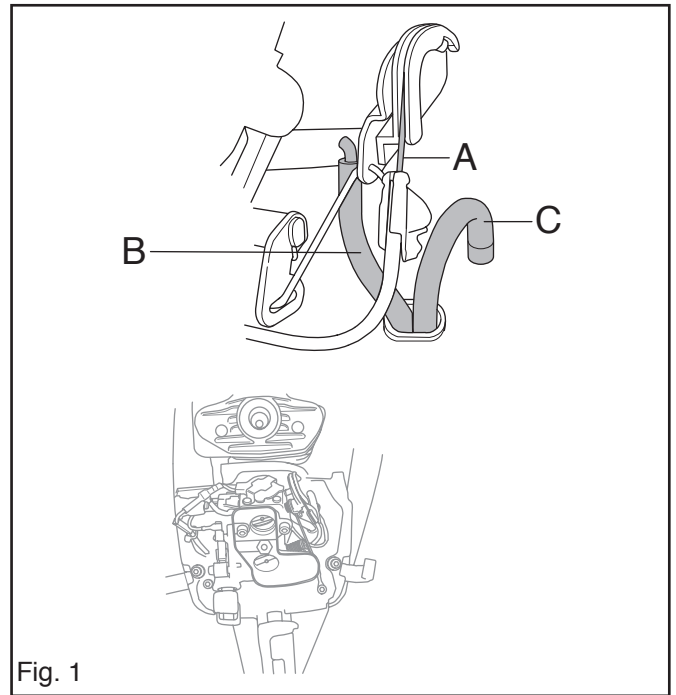
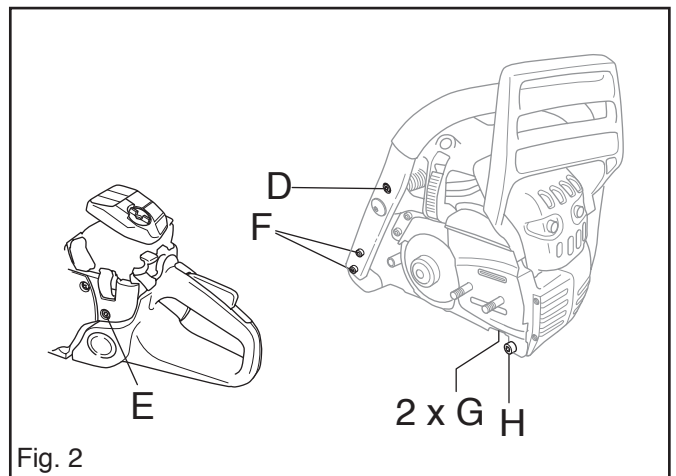

Fig. 1
Fig. 2
3. Unhook the throttle cable (A) from the carburettor. See fig. 1.
4. Remove the fuel pipe (B) from the carburettor and tank vent hose (C).
5. Remove the bolts (D, F and G). Remove front handle. See fig. 2.
6. Remove the bolts (E and H). Remove fuel tank. See fig. 2.